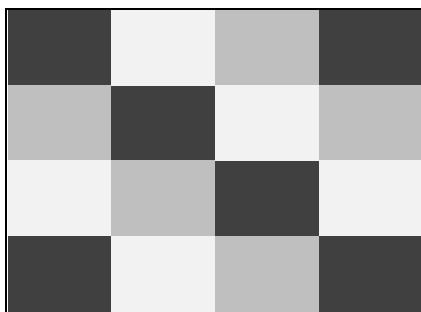

Figure 4-2. Display Test Pattern
6. Press **F3 CALIBRATE**. The test tool shows a dark display; the test pattern as shown in Figure 4-2 may be not visible or hardly visible.
The test tool shows the display test pattern shown in Figure 4-2, at default contrast.
The test tool shows a light display; the test pattern as shown in Figure 4-2 may not be visible or hardly visible.